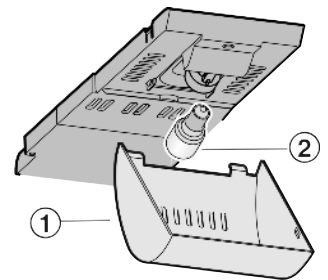

Fig. 16
- ▶ Take holder of the cover *Fig. 16 (1)* at the front and unhook it at the back.
- ▶ Change the bulb *Fig. 16 (2)*.
- ▶ Put the cover *Fig. 16 (1)* back in place.